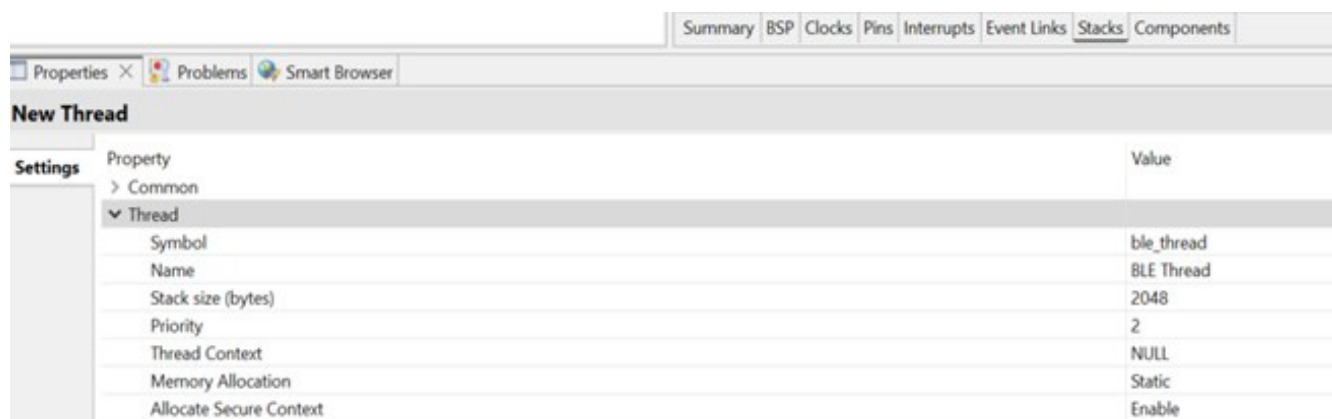

Figure 8. BLE Thread Configuration
4. Select the **Properties** tab. It can be found in the lower-left pane, directly under the Project Explorer. In the **Thread** section (see Figure 8), edit the new thread properties to match the configuration as follows: